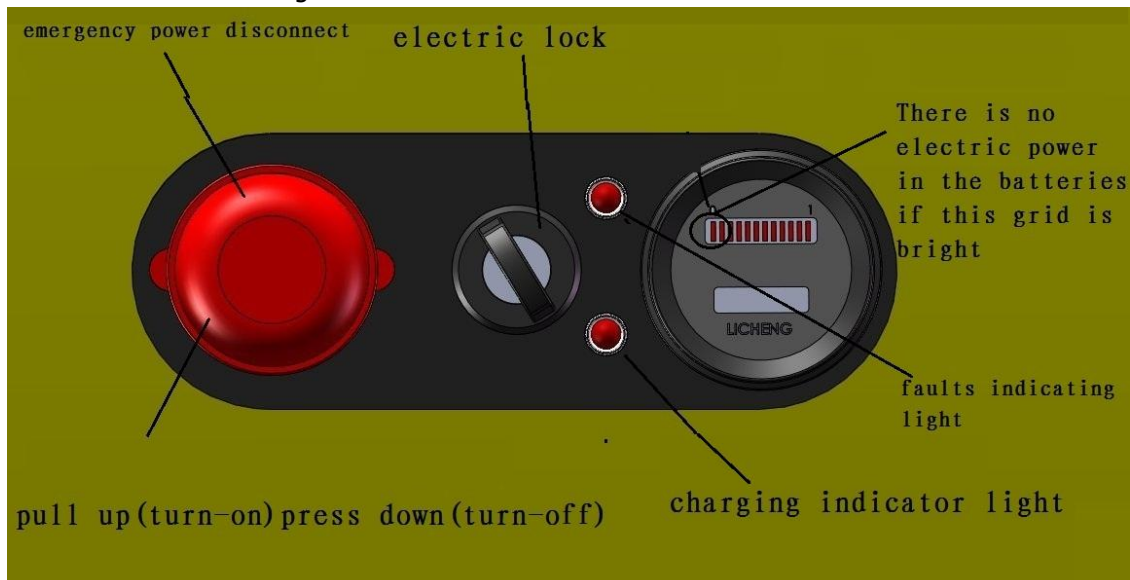

Fig.1
5. 1. 2 Check if there is any electric power in the batteries with the method indicated in Fig.1. Pull the general power switch out to turn on the general power supply, unlock the electric lock on the handle, check the electric energy meter on the instrument panel of the truck. If the zero end grid is bright, it indicates there is no electric power in the batteries and charging should be conducted at once. It is prohibited to operate the truck without electric power as that will greatly reduce the service life of the batteries and even damage the batteries.